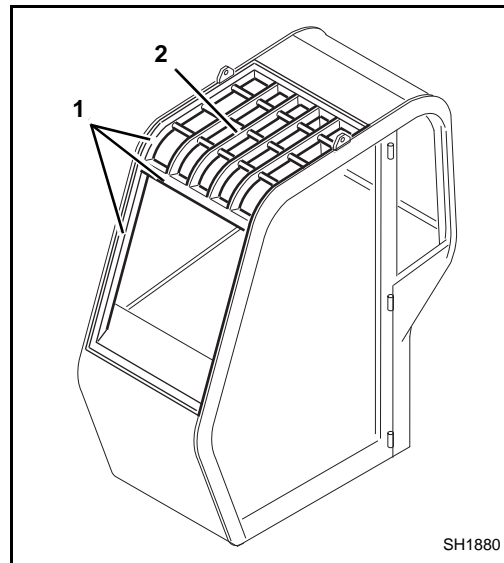

Figure 1
6. Clean the surface of the cab openings (Figure 1, 1) with a glass cleaner. DO NOT use ammonia based glass cleaner. If skylight grill (2) is excessively dirty, clean now, later will be more difficult. The skylight is a permanent installation.